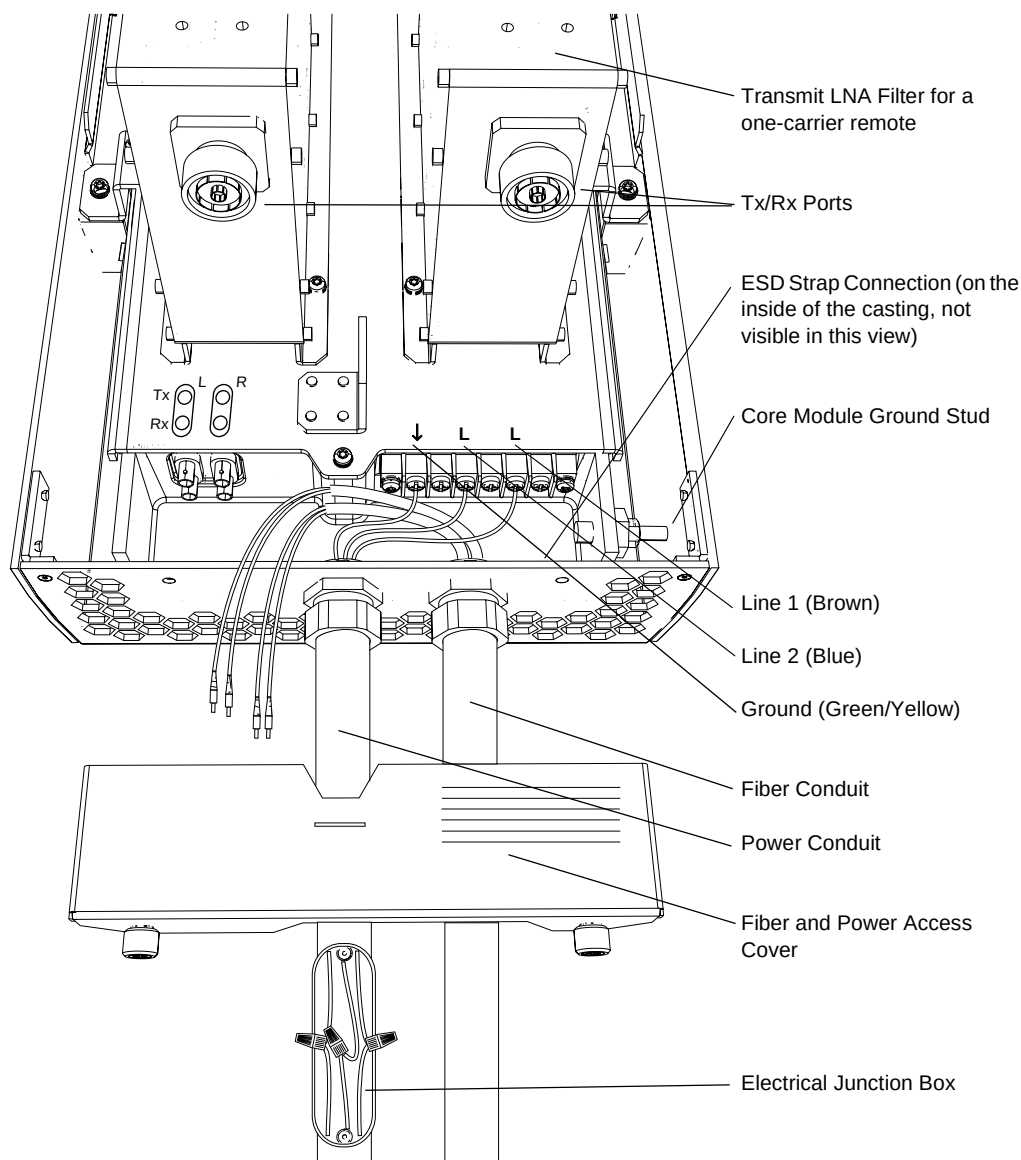

Figure 3–4 Connecting the Ground Cable and RF Jumpers
- Connect the ground jumper to the core module ground stud shown in Figure 3–4 (35–40 in-lbs (400–450 N-cm) maximum torque recommended).
The remote unit core module comes with “pigtailed” connected to the power connectors. The pigtailed must be pulled through the power conduit to the electrical junction box where they will be connected to the power cable from the UPS or electrical breaker. For the correct power designations see, Figure 3–4 on page 3-7.